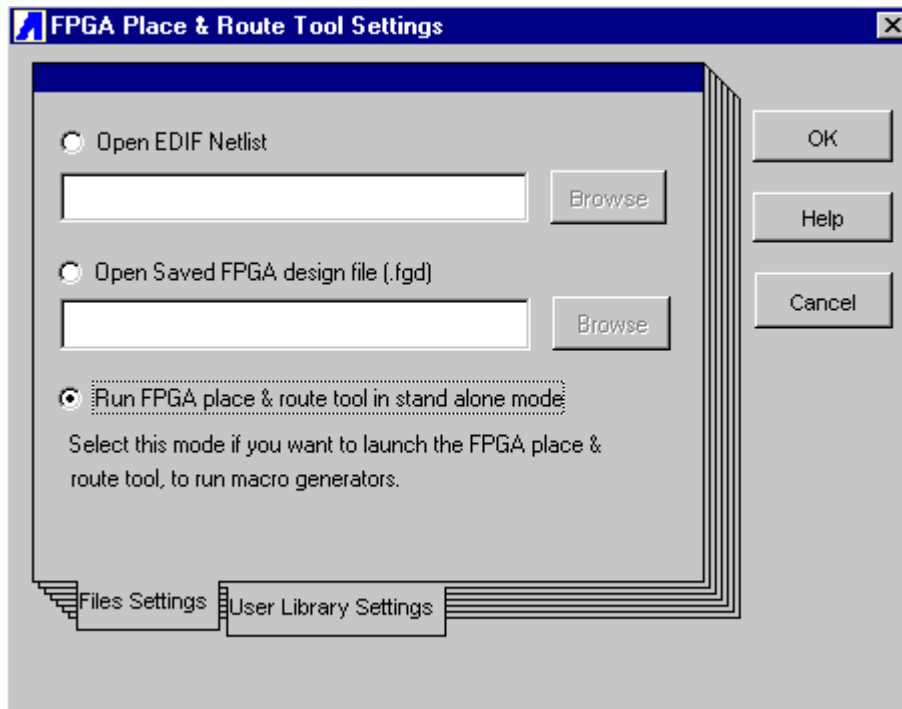

Figure 01. FPGA Place and Route Tool Settings
1. Press **Figaro IDS**, the FPGA Place and Route Tool Settings dialog box opens, see **Figure 01**.